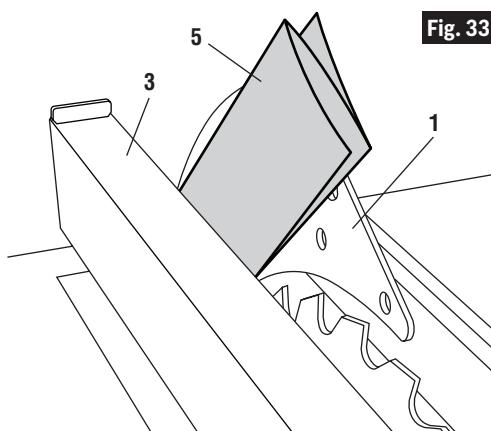

Fig. 33
4. Using the rip fence as a guide, check the riving knife alignment with the plane of the saw blade. Since the riving knife is thinner, by approximately three thicknesses of paper on each side, than the width of the blade's KERF (Fig 31) you must make a temporary paper "spacing gauge". Make two folds in a small piece (6" X 6") of ordinary newspaper making three thicknesses. Place the paper spacing gauge **5** between the riving knife **1** and the rip fence **3** (Fig 33).